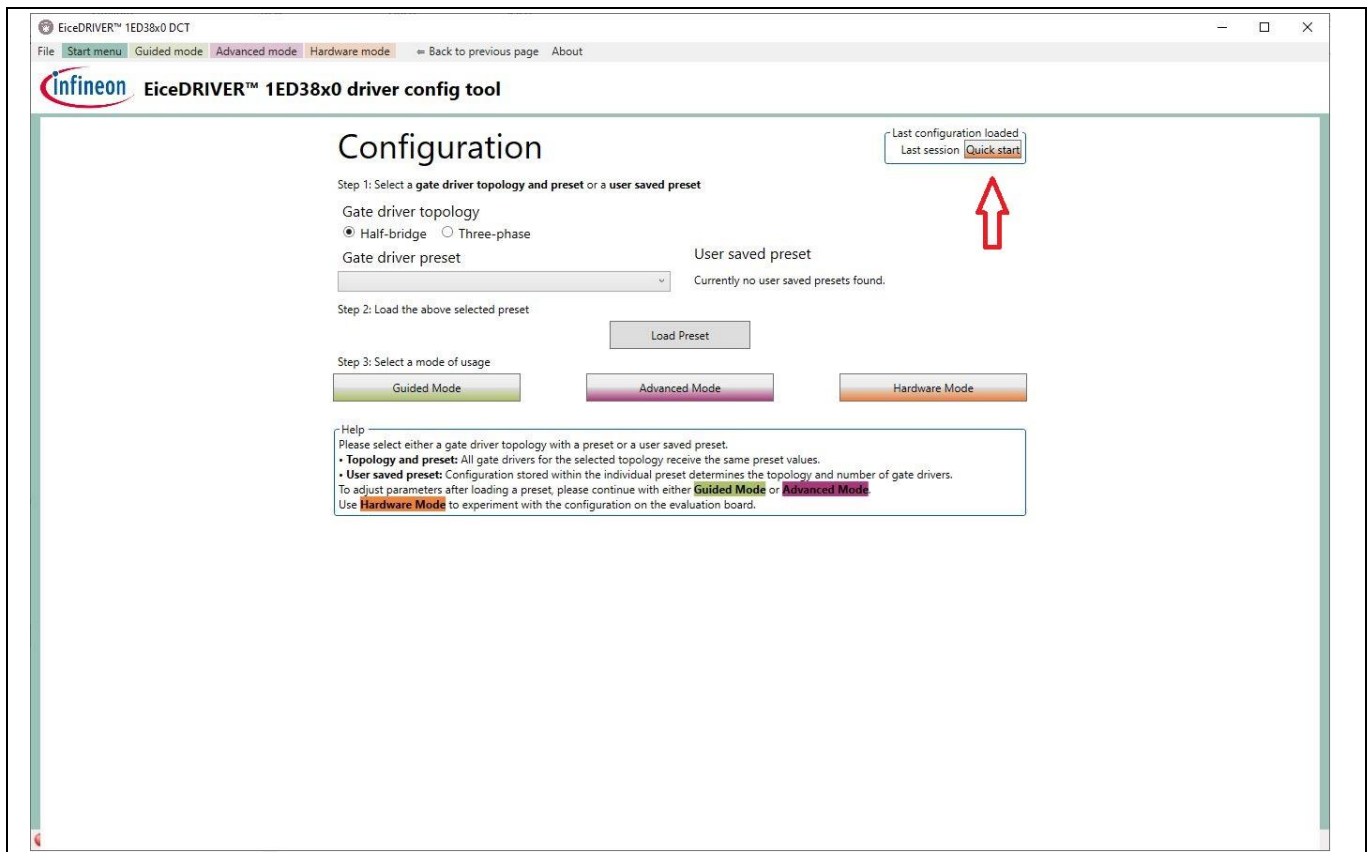

Figure 7 Landing page after starting the GUI 1ED38x0_DCT.exe
7. Press the “Quick-Start” button (Comes up if everething works correct – see Figure 7)